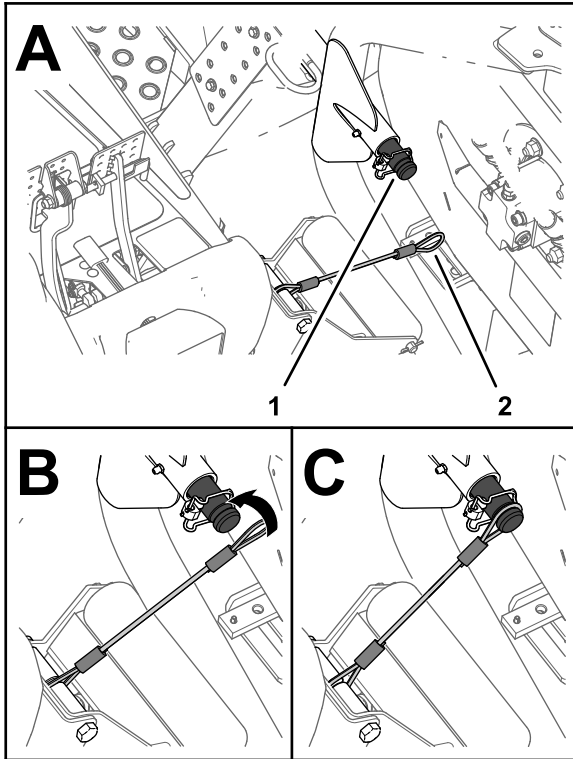

Figure 26
5. Align the lanyard to the carrier shaft of the lift arm for the forward outer-cutting unit (Figure 26).
6. Slip the loop in the lanyard over the carrier shaft until the lanyard is fully seated in the groove in the shaft (Figure 26).